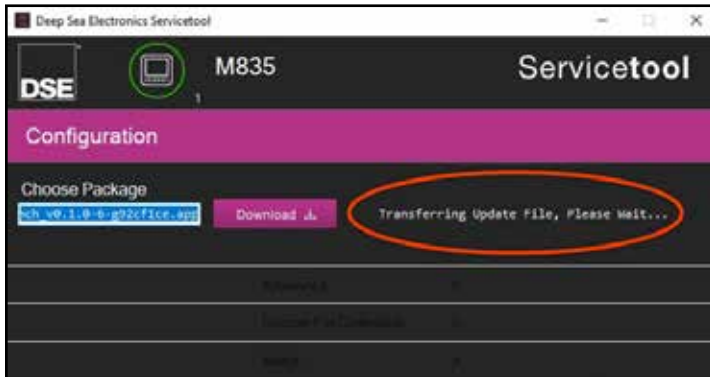

Figure 9
9. Wait for the download to complete. On your laptop, you will see the DSE Service Tool communicate to you that it is transferring the file. See Figure 9.